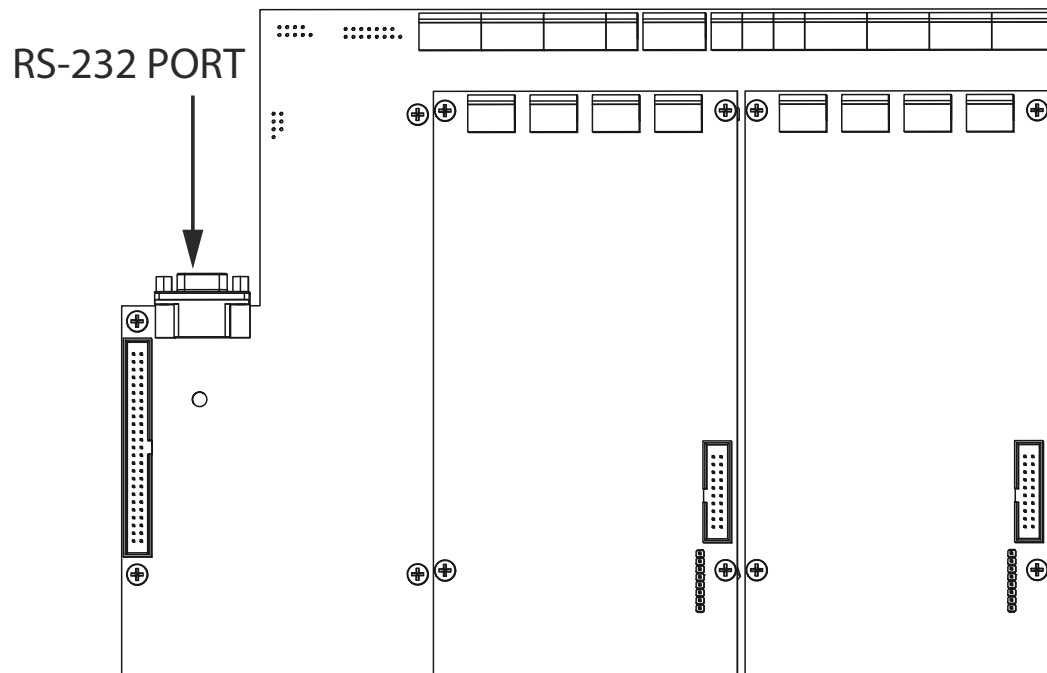

Figure 2 RS-232 Port on the FX-2000
2. Connect the other end of the 9 pin serial cable to the RS-232 port on the FX-2000. See Figure 2.